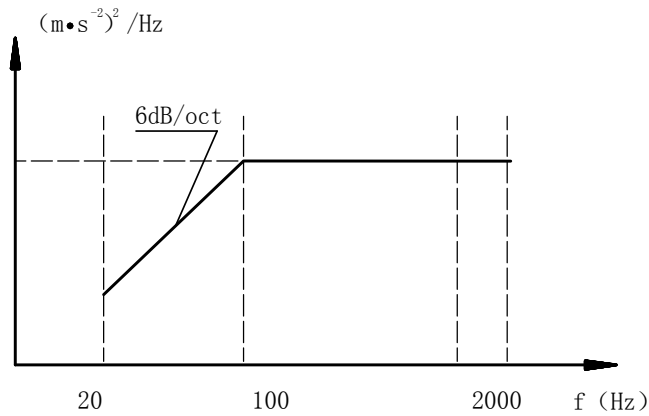

Figure 3-3 Spectral Density vs Frequency Curve
1. The shape of the spectral density vs frequency curve (refer to Figure 3-3).